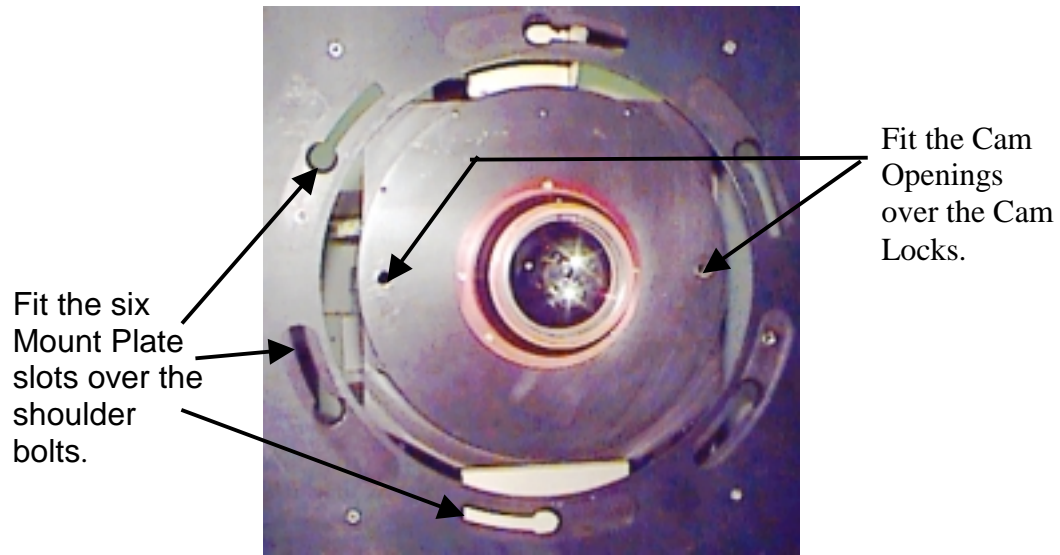
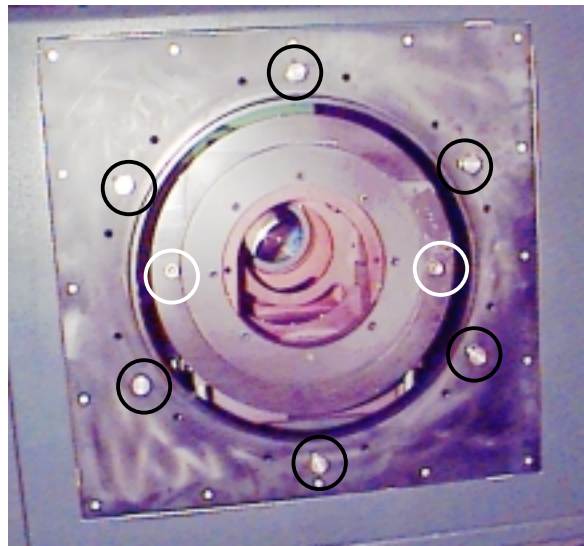

Figure 5-3 Arc Lamp Module Mount Plate.
Figure 5-4 Projection Module Pivot Plate, Shoulder Bolts (circled in black) and Cam Locks (circled in white).
5. Align the Arc Lamp Module Mount Plate to the Projection Module Pivot Plate (*see Figure 5-3*).
6. Rotate the Projection Module Pivot Plate so the cam locks (*see Figure 5-4*) are on a horizontal plane.
11. Using a 8-mm Balldriver Hex Wrench, tighten the Cam Locks to secure the Arc Lamp Module to the Projection Module. Ensure that the Mount Plate (see Figure 5-3) and the Pivot Plate (see Figure 5-4) are fully engaged. Inspect the connection with fingers where the two plates mate (see Figure 5-3) and verify that no space exists between the plates.